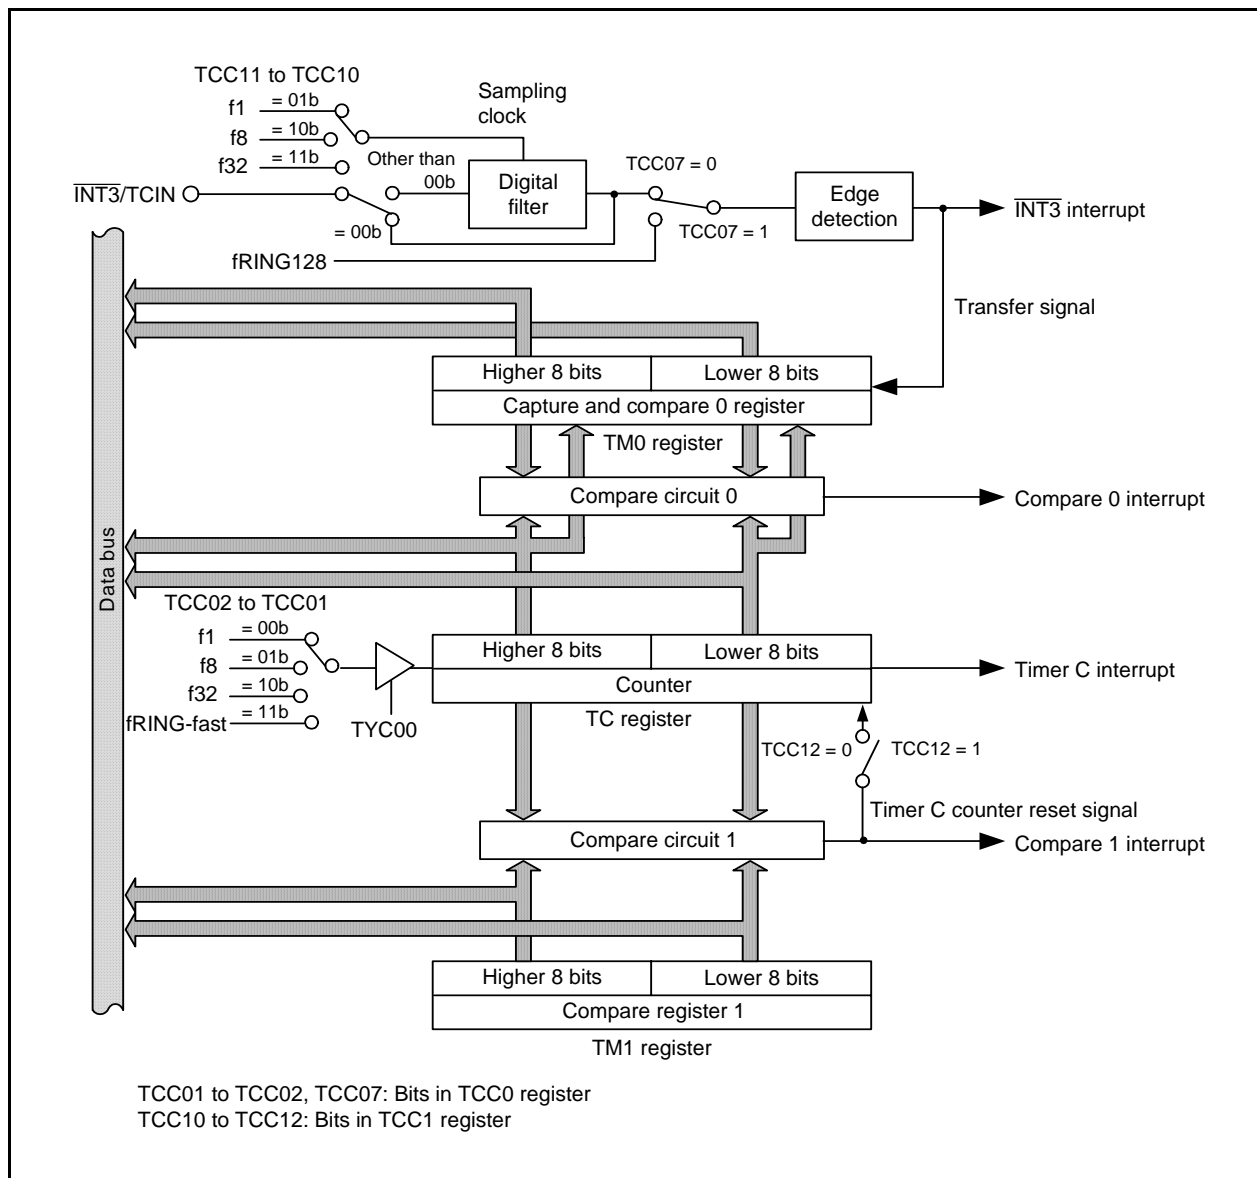
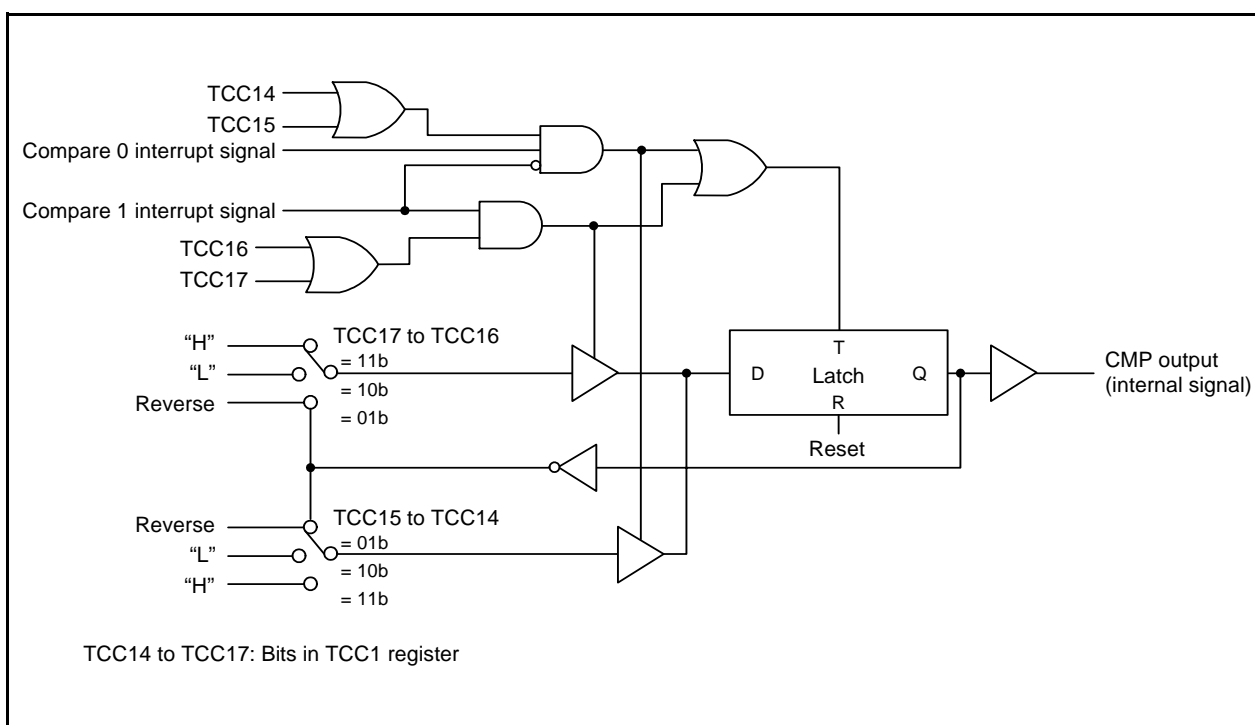
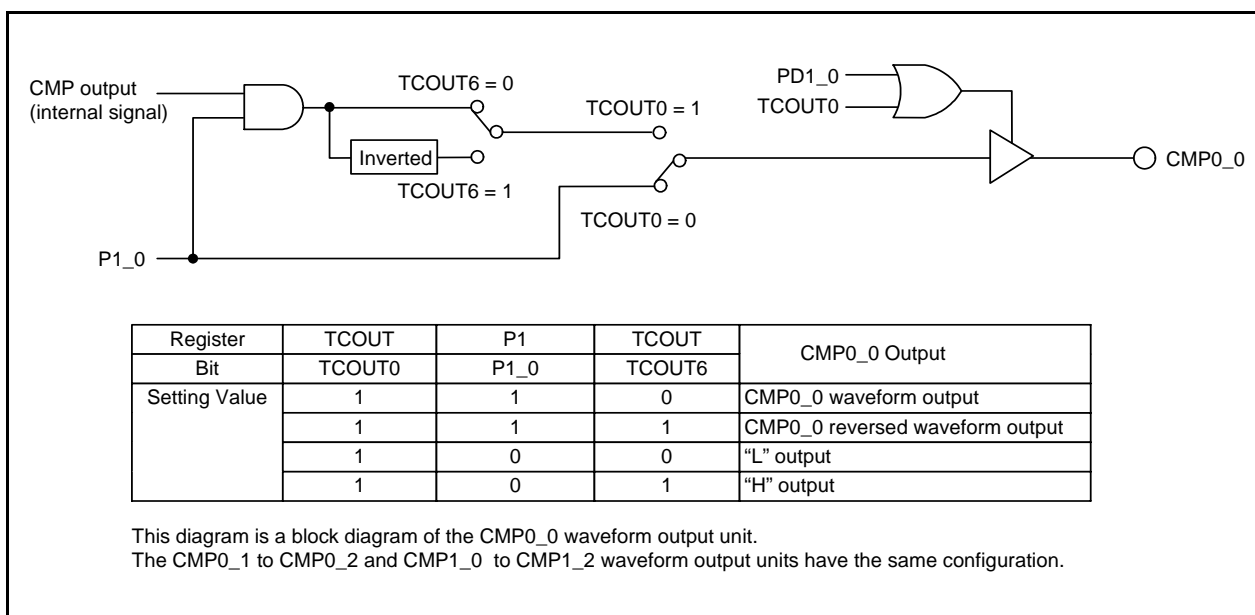

Figure 14.23 Block Diagram of Timer C
Figure 14.24 Block Diagram of CMP Waveform Generation Unit
Figure 14.25 Block Diagram of CMP Waveform Output Unit
Timer C is a 16-bit timer. Figure 14.23 shows a Block Diagram of Timer C. Figure 14.24 shows a Block Diagram of CMP Waveform Generation Unit. Figure 14.25 shows a Block Diagram of CMP Waveform Output Unit.
1. When the corresponding port data is 1, the waveform is output depending on the setting of the registers TCC1 and TCOUT. When the corresponding port data is 0, the fixed level is output (refer to **Figure 14.25 Block Diagram of CMP Waveform Output Unit**).